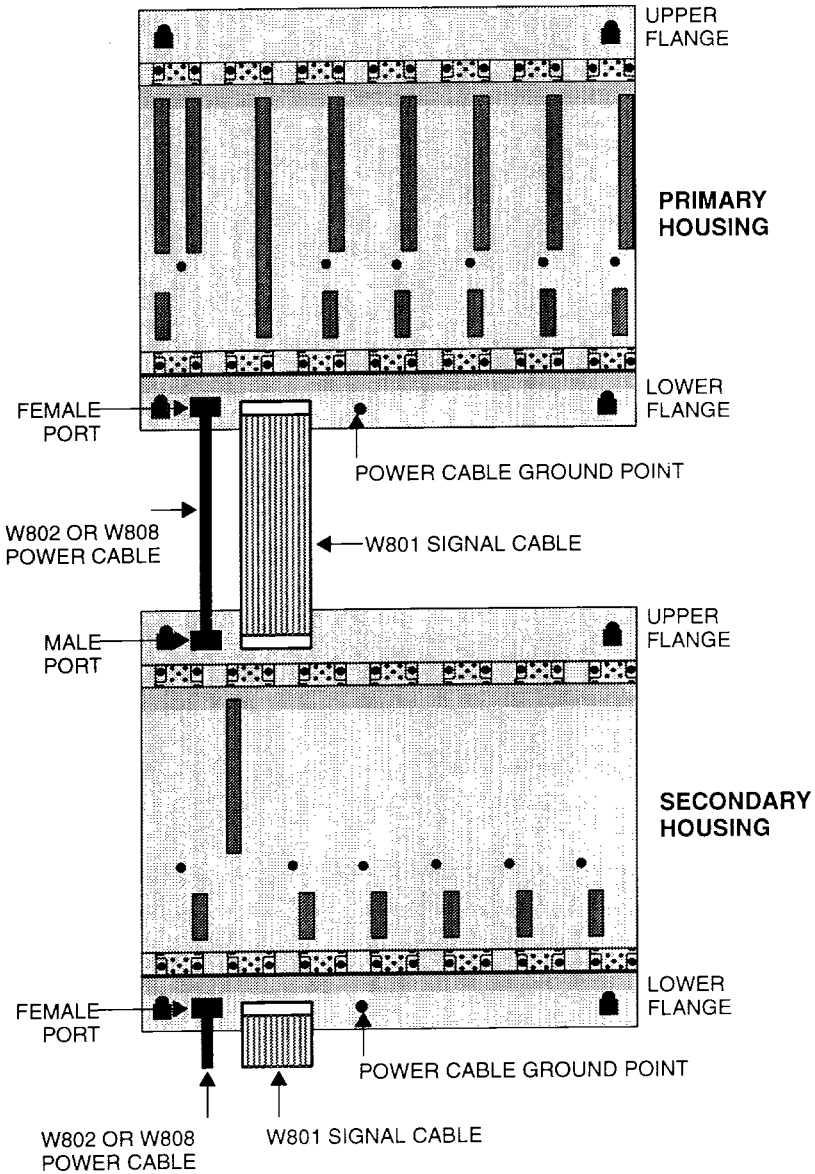

Figure 21 Connecting Cables within Each Drop
Step 5 Repeat Steps (3) and (4) above for each housing in Drop 2.
Step 6 Using appropriate lengths, connect your W801 signal cable and W802 power cable (use W804 auxiliary power cable when required) between the signal and power connector ports at the top and bottom of each housing as shown in Figure 21. Make sure the cable ground lug is attached to Housing Ground Point.
- Step 5** Repeat Steps (1) thru (4) above for all remaining housings within Drop 2.
- Step 6** Using appropriate lengths, connect your W801 signal cable and W802 power cable (use W808 auxiliary power cable when required) between the signal and power connector ports at the top and bottom of each housing within the drop as shown in Figure 21.